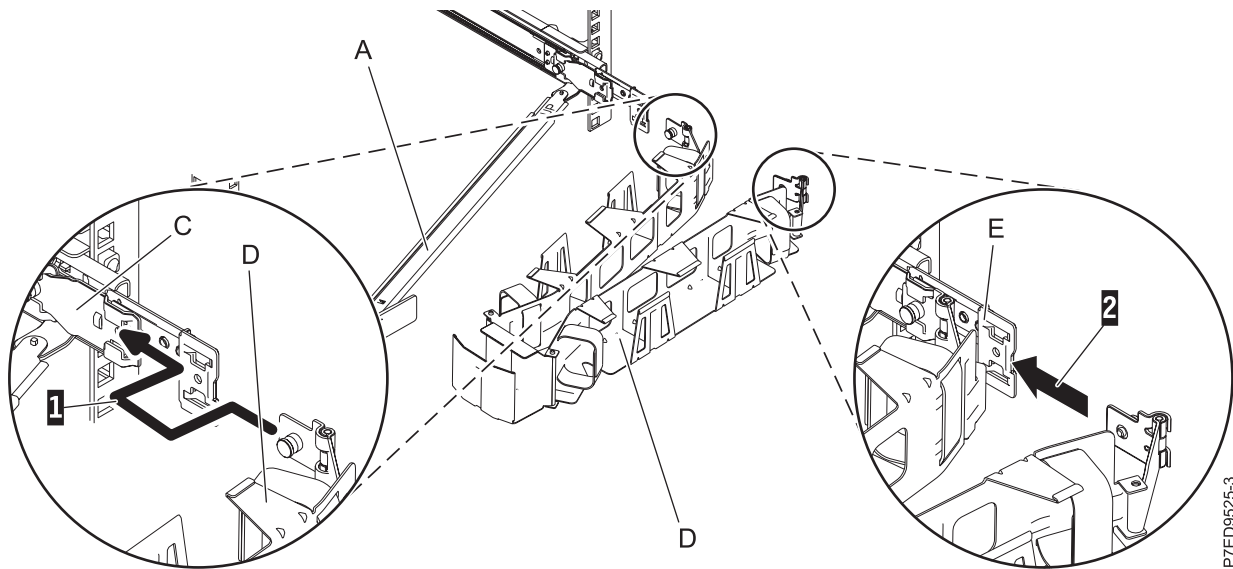

Figure 17. Connecting the cable-management arm
6. Place the cable-management arm (D) on the support arm (A). Pull out the cable-management arm pin (1), and then slide the cable-management arm tab (2) into the slot on the mounting bracket (C). Push the tab until it snaps into place. Pull out the other cable-management arm pin (3), and then slide that cable management arm tab into the extension bracket (E) slot (4) on the outside of the right slide rail. Push the tab until it snaps into place, as shown in Figure 17 on page 13.